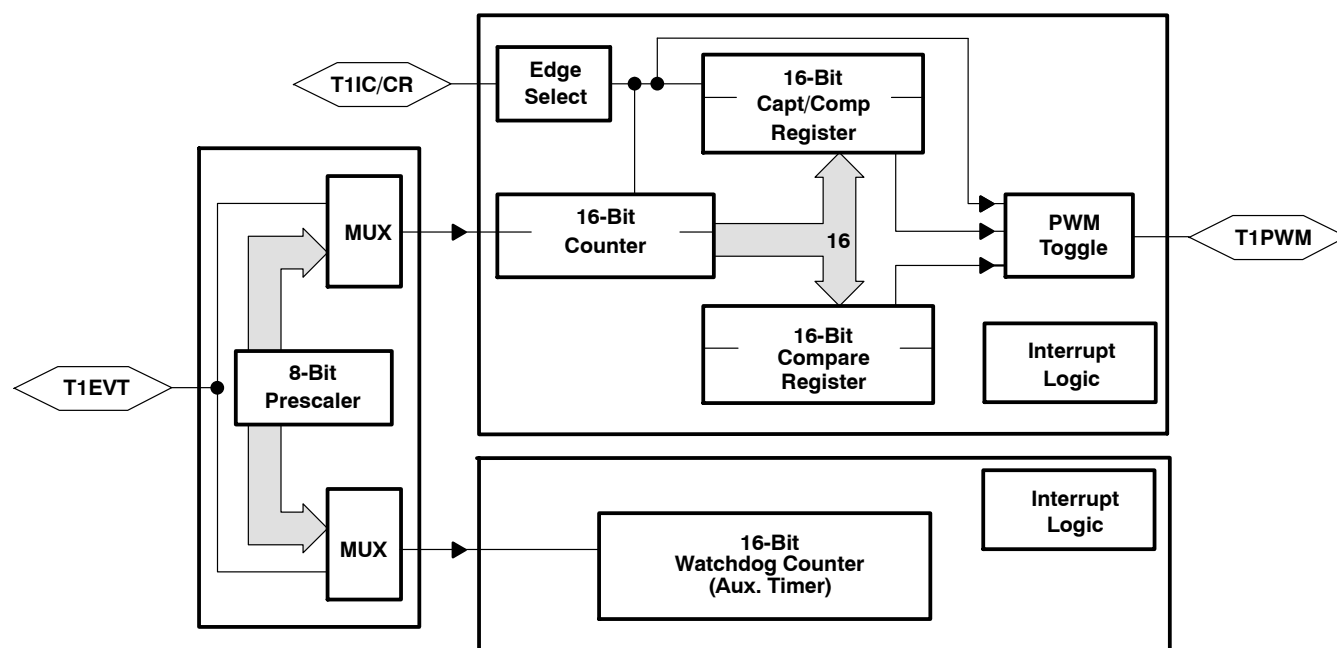

Figure 6. Timer 1 Block Diagram
The programmable Timer 1 (T1) module of the TMS370CxTx provides the designer with the enhanced timer resources required to perform real-time system control. The T1 module contains the general-purpose timer and the watchdog (WD) timer. The two independent 16-bit timers allow program selection of input clock sources (real-time, external event, or pulse accumulate) with multiple 16-bit registers (input capture and compare) for special timer function control. The T1 module includes three external device pins that can be used for multiple counter functions (operation mode dependent) or used as general-purpose I/O pins. The T1 module is shown in Figure 6.